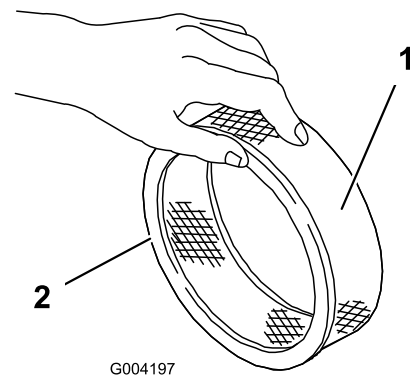

Figure 16
5. Inspect the paper filter for tears, an oily film, and damage to the rubber seal (Figure 16).
1. Carefully slide the foam pre filter onto the paper filter (Figure 16).